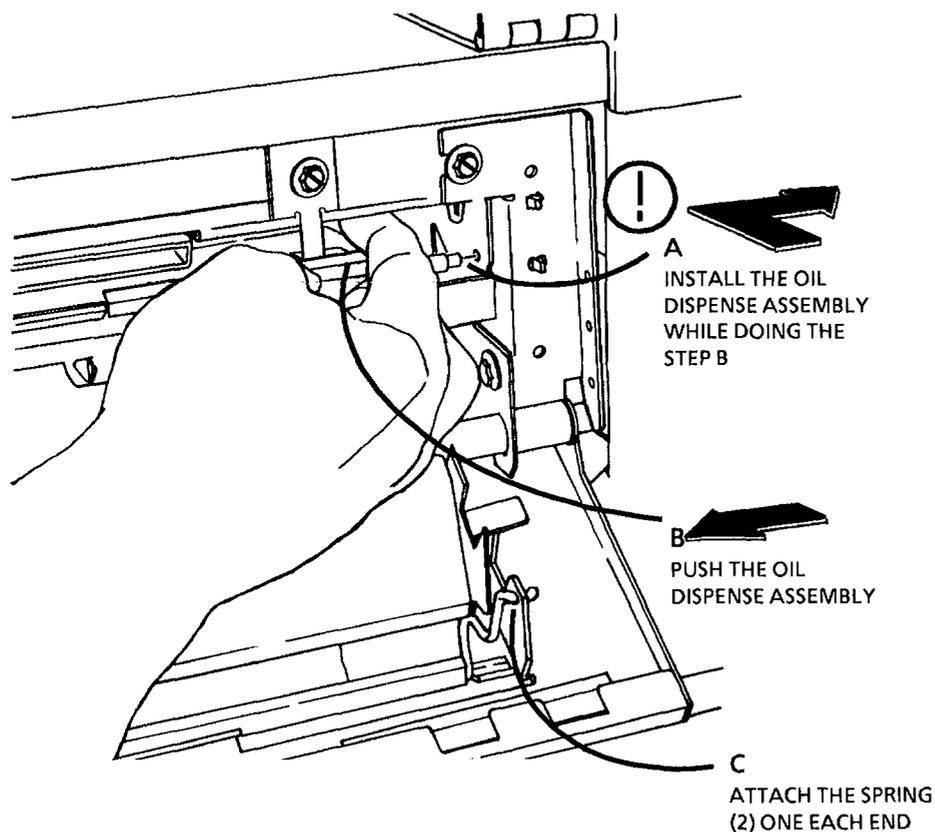

Figure 3. Installing the Media Under the Fabric Guide
24. (FIGURE3): INSTALL THE RIGHT SIDE OF THE OIL DISPENSE ASSEMBLY.